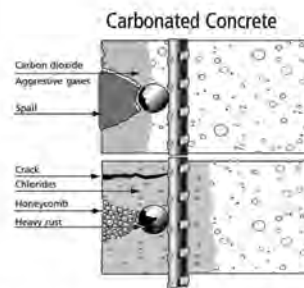

Fig. 2—Concrete with chloride and CO₂ penetration and corrosion.
- Water can combine with chloride ions, acid rain, or aggressive gases to accelerate corrosion of the reinforcement, as in Fig. 2.